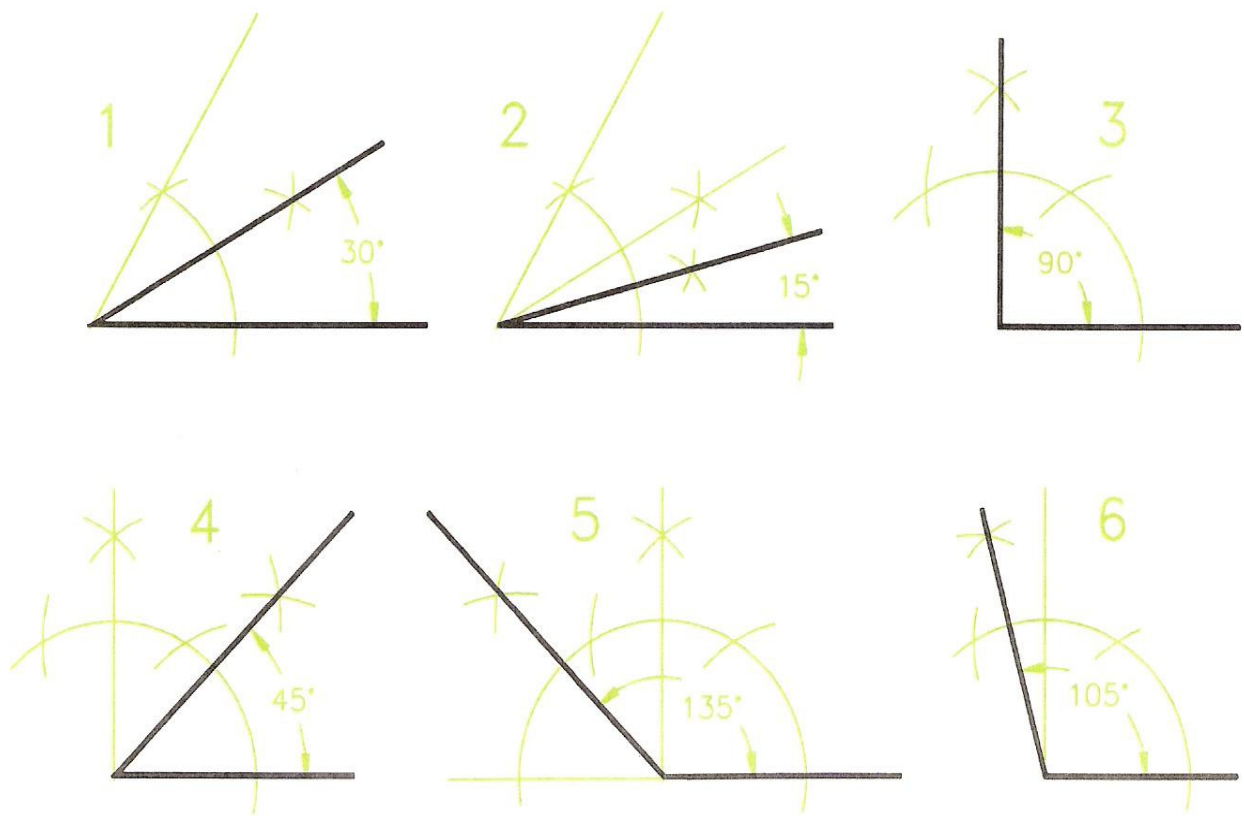

Figure 11 - Constructing Angles
1. Drawing 1, Figure 11 - Construct an angle of 60 degrees. Bisect to obtain 30 degrees.